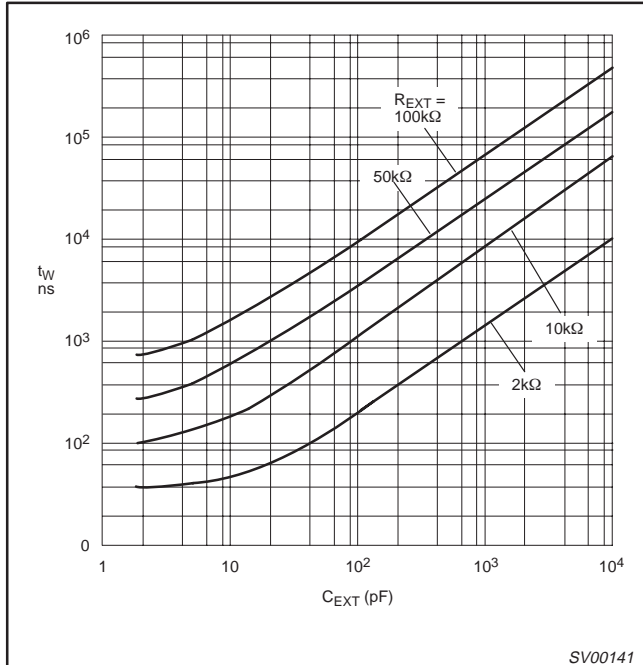

Figure 6. Typical output pulse width as a function of the external capacitor values at  $V_{CC} = 3.3\text{V}$  and  $T_{amb} = 25^\circ\text{C}$ .
- For other REXT and CEXT combinations see Figure 6.